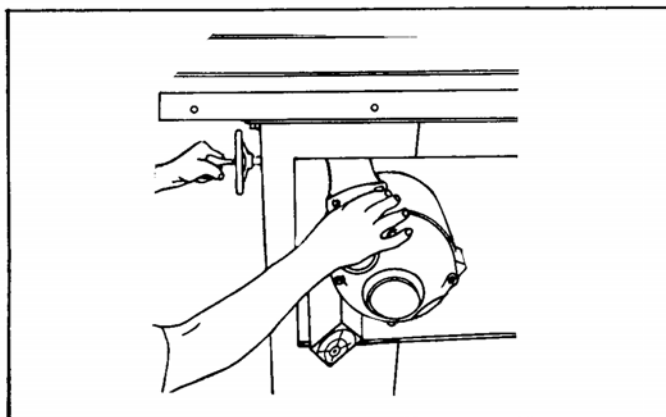

Fig. 8.
11. After proper belt tension is obtained, insert cap screw and washer as shown in Fig. 8, and tighten.